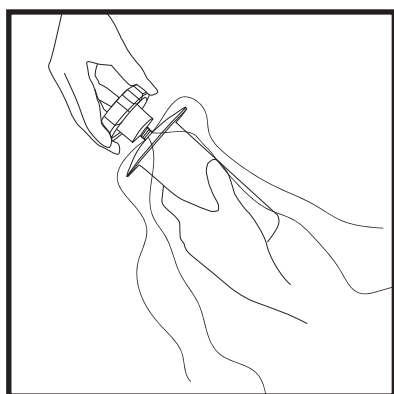

Fig. 16
12. Screw the pole crown with the black knob through an eyelet on the top of the roof (Fig. 16).